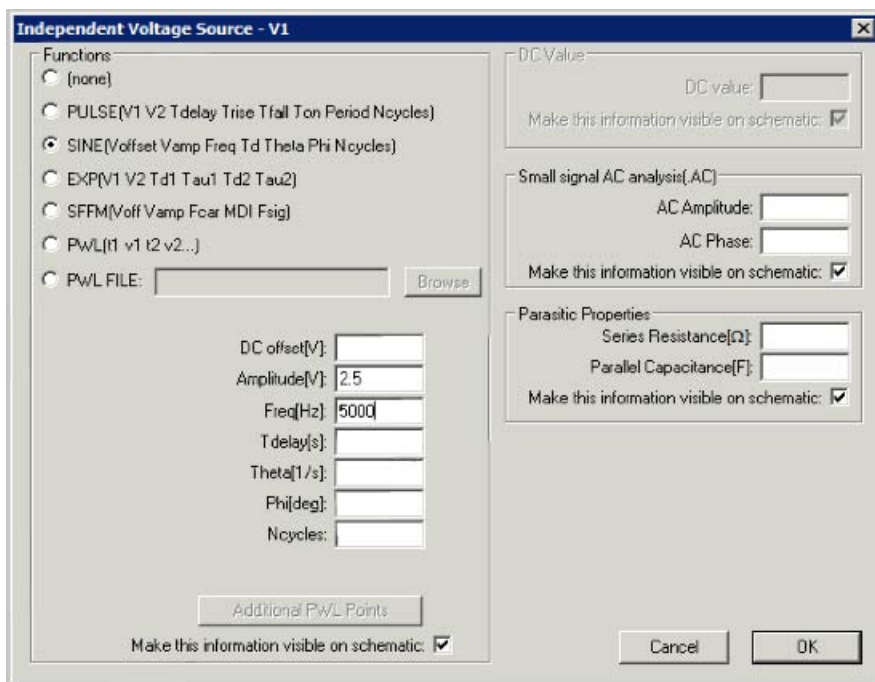

Figure 2.9: LTSpice Voltage Source Options
2. Begin by adding an AC voltage source. To do this, press F2 on the keyboard and select "voltage" from the list of options. Click OK to place the source on the new schematic. Once the voltage source has been placed on the schematic, right click on it and then click "advanced" to bring up the options shown in Figure 2.9.